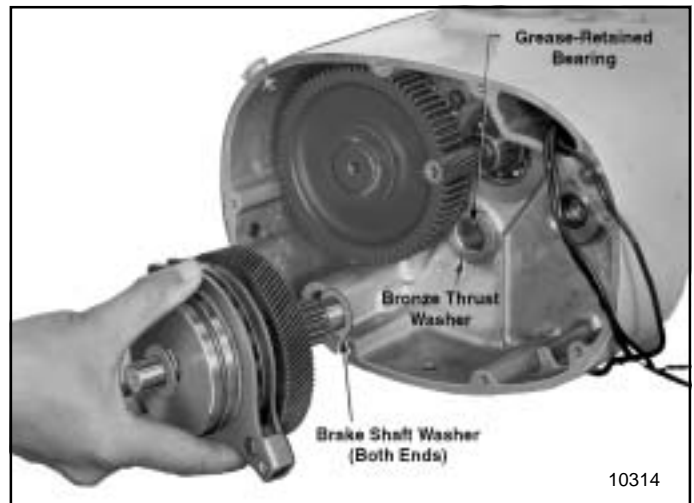

Figure 7-7. Removing Load Brake and Clutch Assembly (1/4 & 1/2 Ton Hoists)
(1) On 1 /4 thru 1 /2 ton hoists, pull load brake and overload clutch assembly and the brake shaft washers from inside hoist frame (fig. 7-7). Caution: Grease-retained bearing has 36 rollers (all capacities) and may be reinstalled unless rollers are broken or missing or cup is damaged.